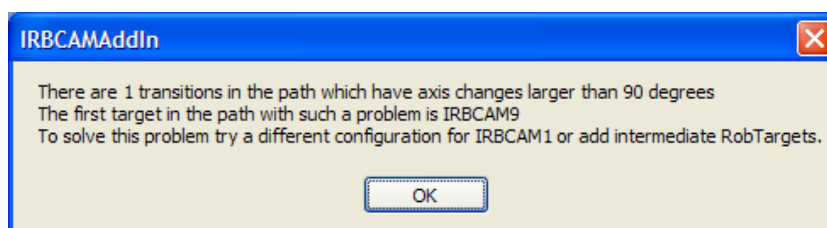

Fig. 7. Warning message for configured path when axis 1, 4 or 6 re-orientations are larger than 90 degrees.
Even if the entire path is configured successfully, it may not run on the robot controller. If the change of robot angles for axis 1, 4 or 6 is larger than 90 degrees between two RobTargets, the robot controller will stop the path and produce an error message. To detect such potential errors, the IRBCAM Add-In checks the entire path for this type of problems. An example of detection of large axis angle change is shown in Fig. 7. When such problems occur, the user can remove all the configuration data (menu item 8), select a new configuration for IRBCAM1 and configure the path again. If the problem persists for all initial robot configurations, then another solution may be to add a new RobTarget in the path to avoid large axis re-orientations between two existing RobTargets.